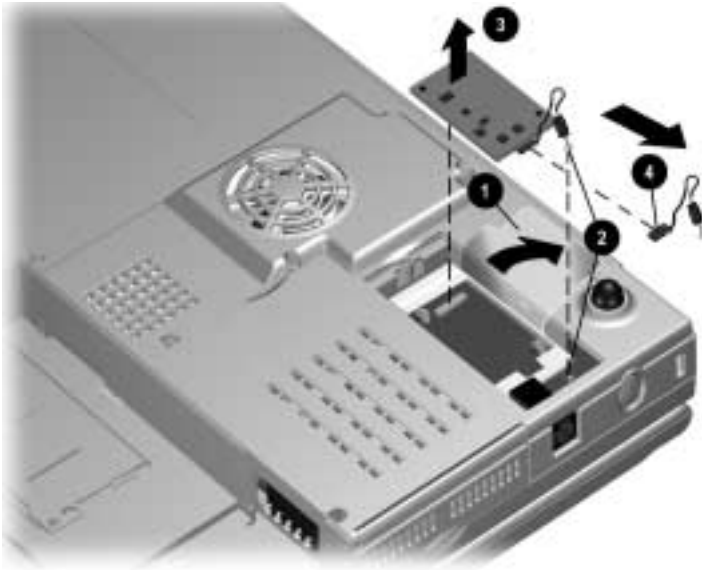

Figure 5-5. *Removing the Modem*
8. Swing the plastic modem protector toward the back of the computer ❶ (Figure 5-5).
9. Disconnect the modem cable from the system board ❷.
10. Lift the left side of the modem board to disconnect it from the system board ❸.
11. If necessary, disconnect the modem cable from the modem board and replace the modem cable ❹.